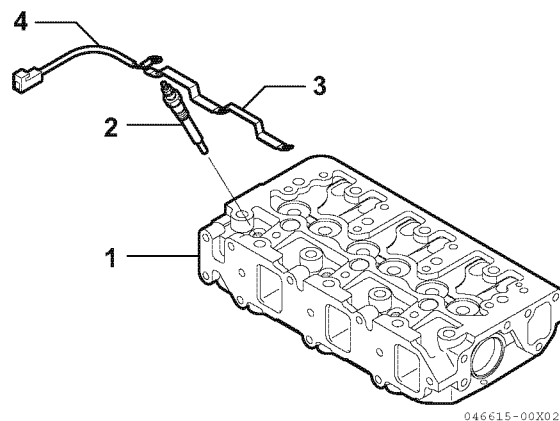

Figure 6-4
1. Loosen the nut on the top part of the glow plug (2, **Figure 6-4**), and remove the glow plug connector (3, **Figure 6-4**) and the glow plug harness (4, **Figure 6-4**).
2. Remove the glow plug (2, **Figure 6-4**) from the cylinder head (1, **Figure 6-4**).